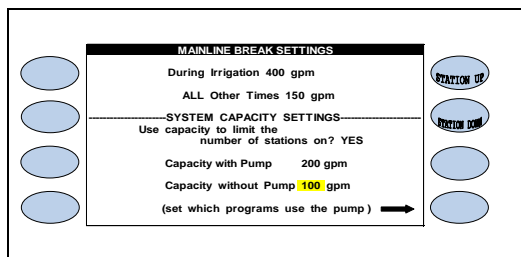

Figure 11.7
This will open up the portion of the screen dealing with Capacity with or without Pump (Figure 11.7).
5.  If you are using a pump and did not select SET WHICH PROGRAMS TO USE PUMP in the pump section of this manual then press the **SET WHICH PROGRAMS TO USE THE PUMP** Menu key (Figure 11.7).